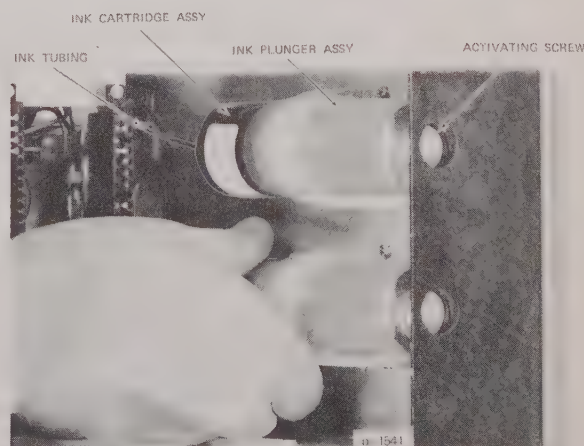

FIGURE 6-4. INK CARTRIDGE REPLACEMENT
1. Loosen two screws and pull control board assembly and first drive amplifier board assembly from rear of recorder. Remove top rear cover by sliding it back and lifting out. Refer to Figure 6-4.